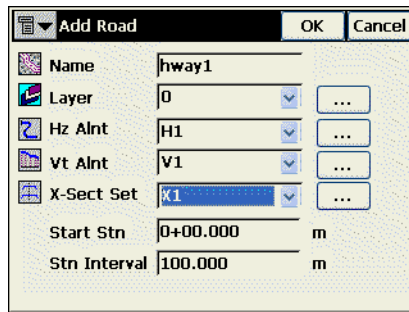

Figure 4-30. Add Road
2. In the *Add Road* screen, set the name of the road and select the layer, the alignments, and cross section set of the created road and tap **OK** (Figure 4-30).